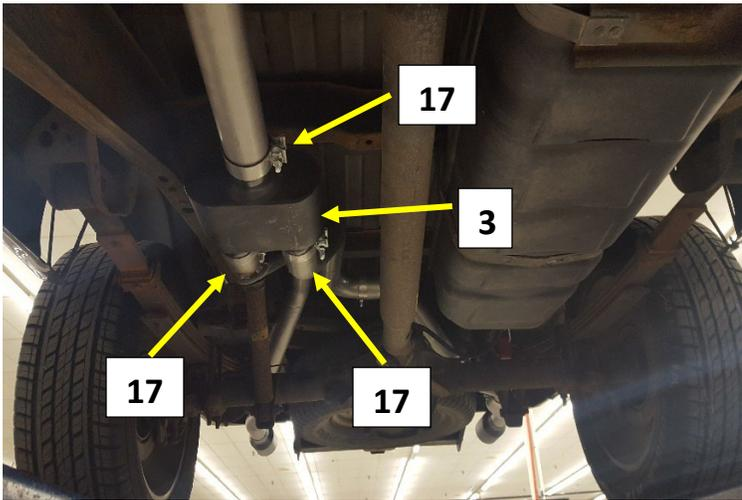

Figure.9
8. Install a 3" band clamp (17) on to the muffler inlet and each of the muffler outlets. **Fig.9**
9. Install the muffler (3) on to the inlet /extension pipe. **Fig.9**